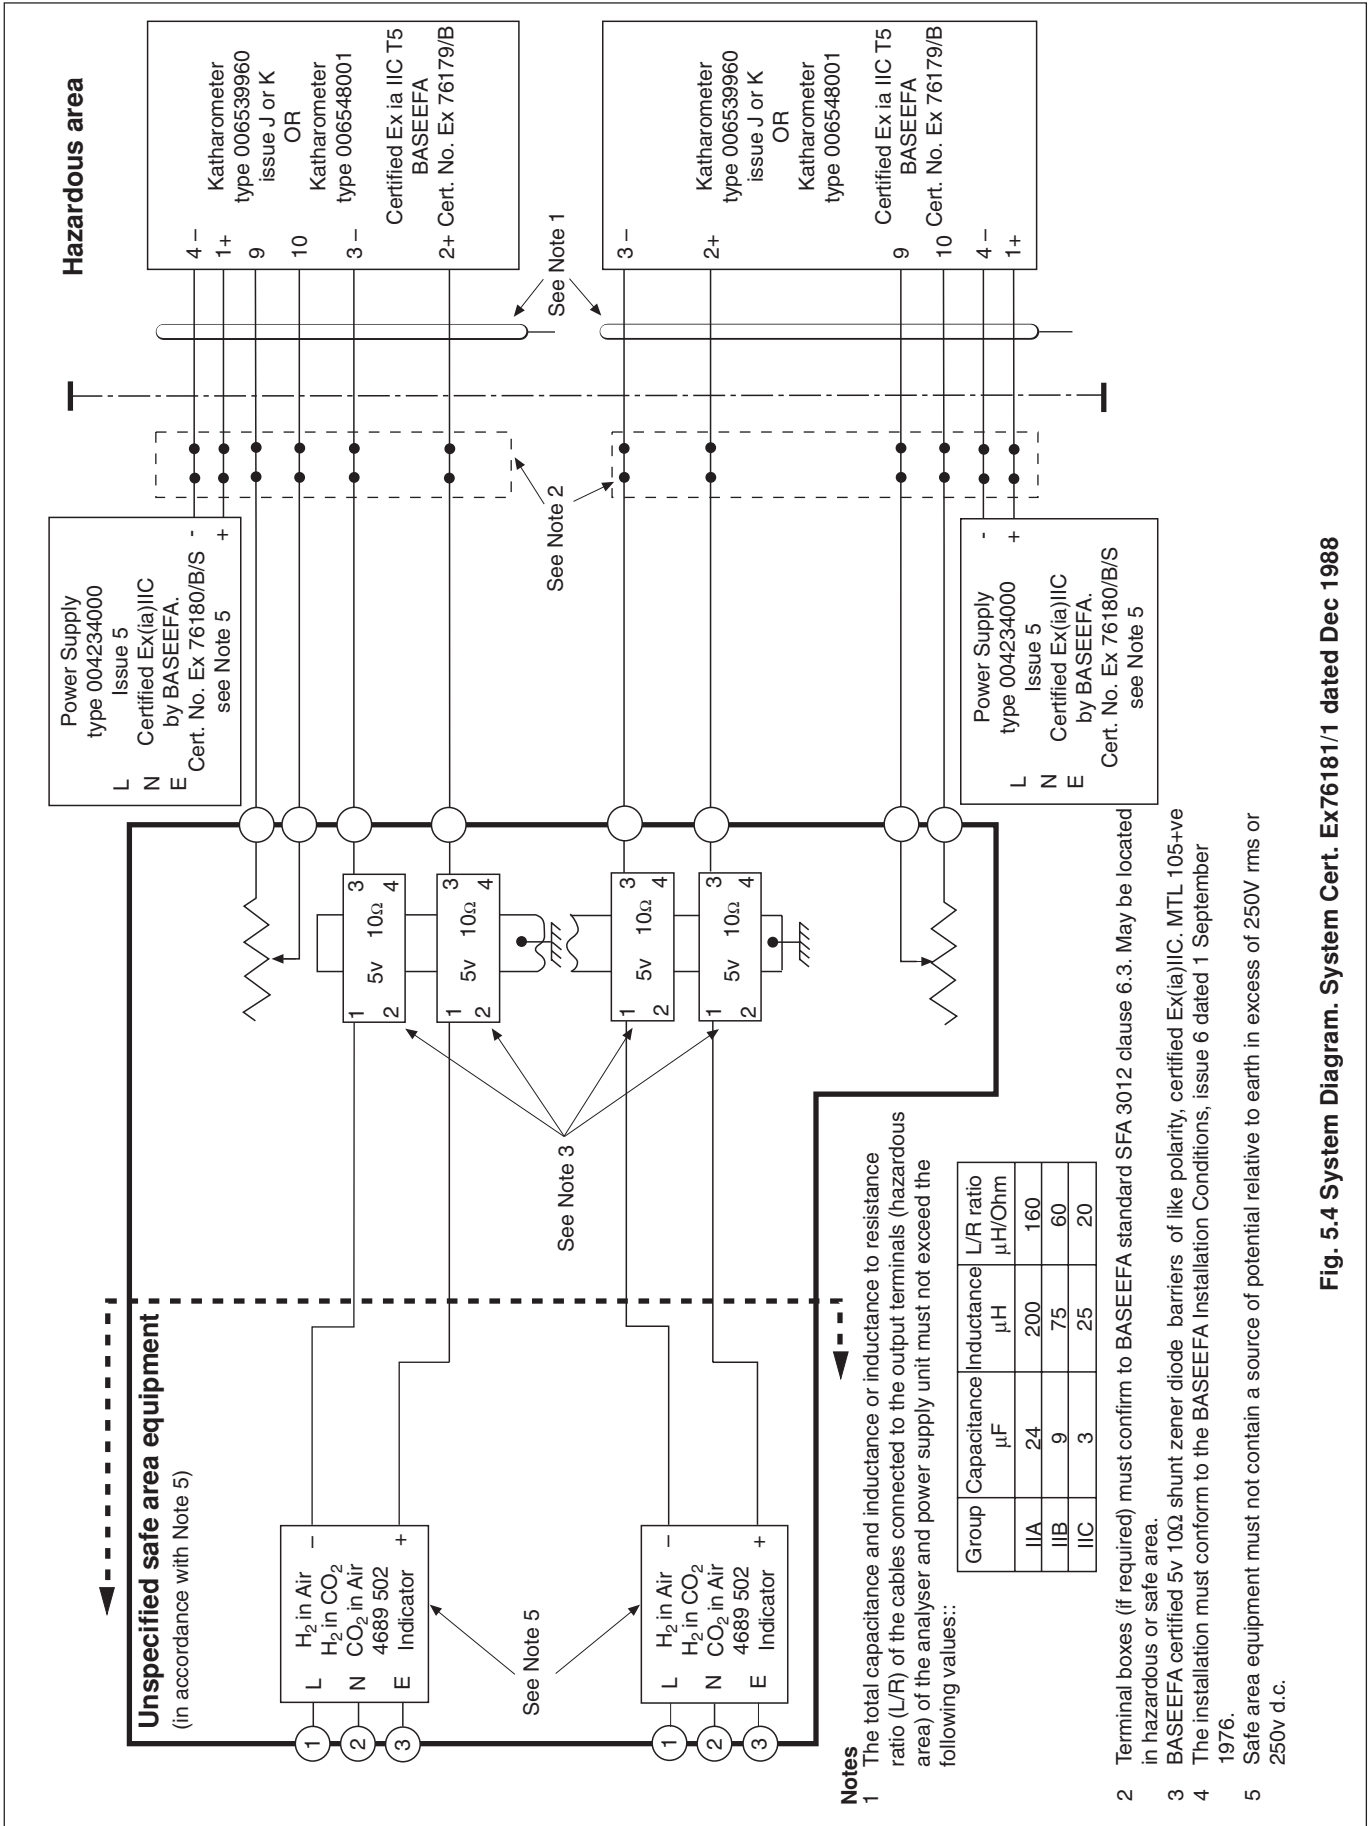

Fig. 5.4 System Diagram. System Cert. Ex76181/1 dated Dec 1988
Fig. 5.4 shows the interconnecting wiring requirements for the gas analyser system, which must be strictly observed. Details of cable requirements, which must be strictly adhered to, are also given – see Section 5.2.1.
The interconnecting cables between the various units of the gas analysis system are subject to stringent limitations because of the requirements of the intrinsic safety certification. These are listed below and detailed in Fig. 5.4.
- 3) The overall installation must conform to the BASEEFA installation conditions, Issue 6 (September 1976) – see Fig. 5.4.